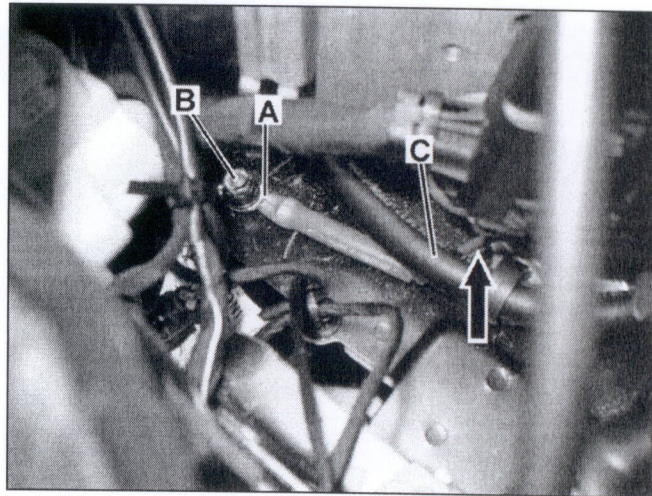

Figure 26
28. Attach the ground wire harness ring connector (A, Figure 26) to the body ground terminal (B) with M6 nut. Torque the M6 nut to 10 Nm.
- The ground wire harness (arrow) must be routed under the SBC suction hose (C). The ring connector (A) **must** be positioned as shown in Figure 26.
- This ground terminal (B) is to be used **only** for mounting the SBC ground wire harness (arrow).